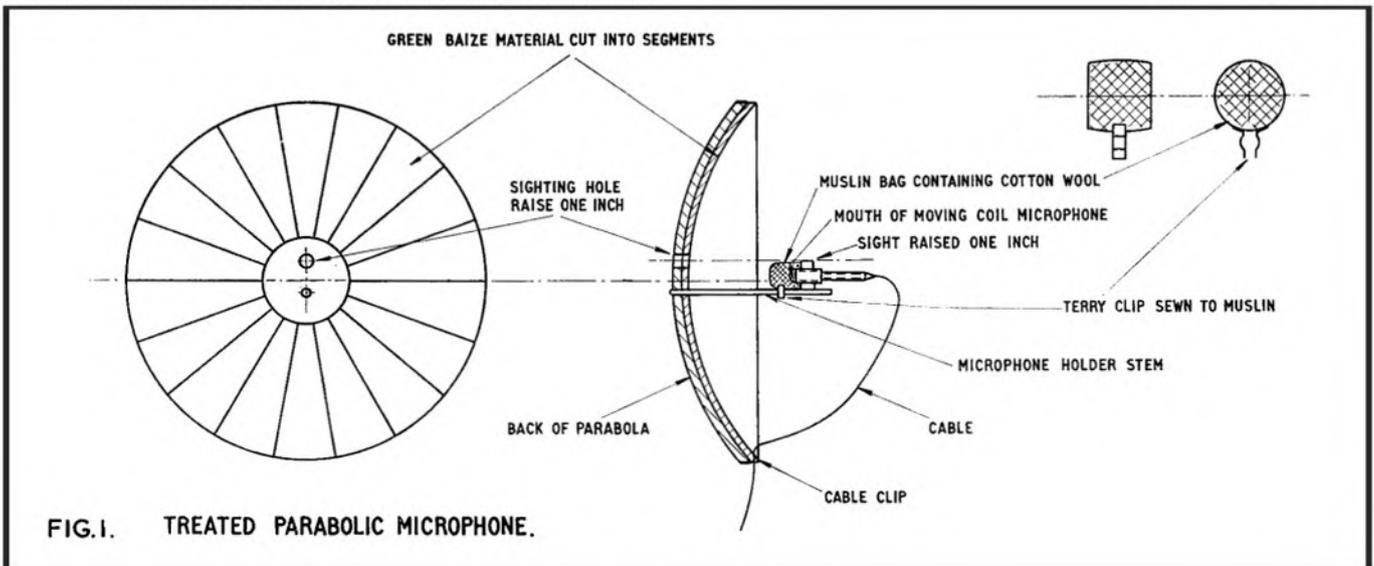

FIG. 1. TREATED PARABOLIC MICROPHONE.
**Sibilant Splash :** Cause—excessive high frequency signal reaching the recorder due to poor low frequency response of the reflector. Remedy—treat the parabola as shown in fig. 1. Use a good moving-coil microphone. Record at a lower level.
First, the sight and aiming hole in the reflector should be raised by one inch (see fig. 1) to allow room for the microphone filter without obstructing the view of the aiming sight.